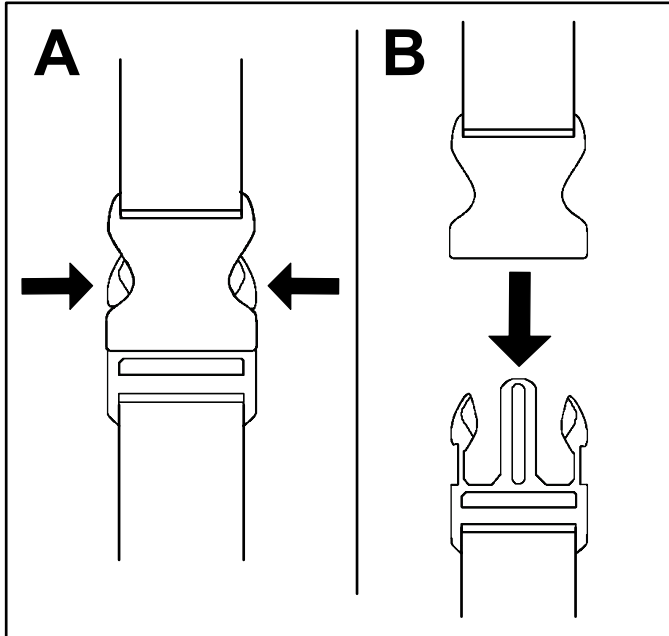

Figure 13
1. Press in on the sides of the buckles (A of Figure 13).
2. Allow the buckles to disconnect (B of Figure 13).